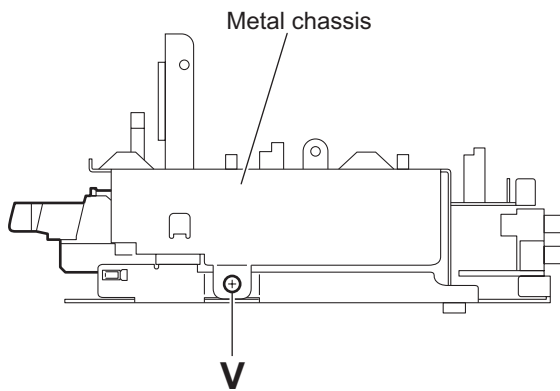

Fig.25
3.1.12 Removing the DVD mechanism assembly (See Figs.25 to 28)
- (1) From the right side of the main body, remove the screw **V** attaching the metal chassis. (See Fig.25.)